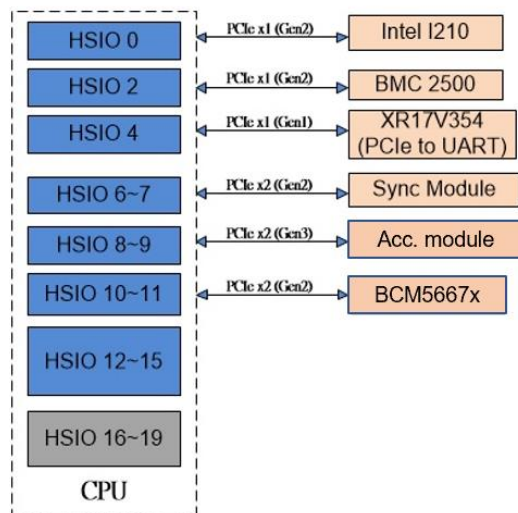

Figure 8 PCIe Topology Block Diagram
- Network Interface: 1000 Base-T. In Open edge switch, the 1000 Base-T is routing on the server sled towards back plane →PDB→ finally to the Broadcom Ethernet switch BCM53158 on RMC as shown in **Figure 8**.